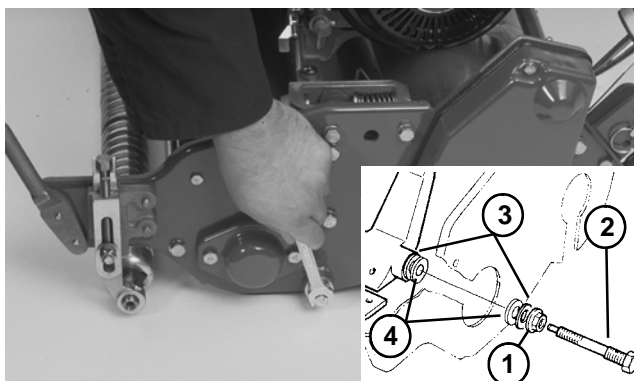

Figure 25
4. Loosen flange nuts on both sides of the mower. Remove both bedbar bolts on each side of the mower with the metal and nylon washers. Discard nylon washer (Fig. 25).